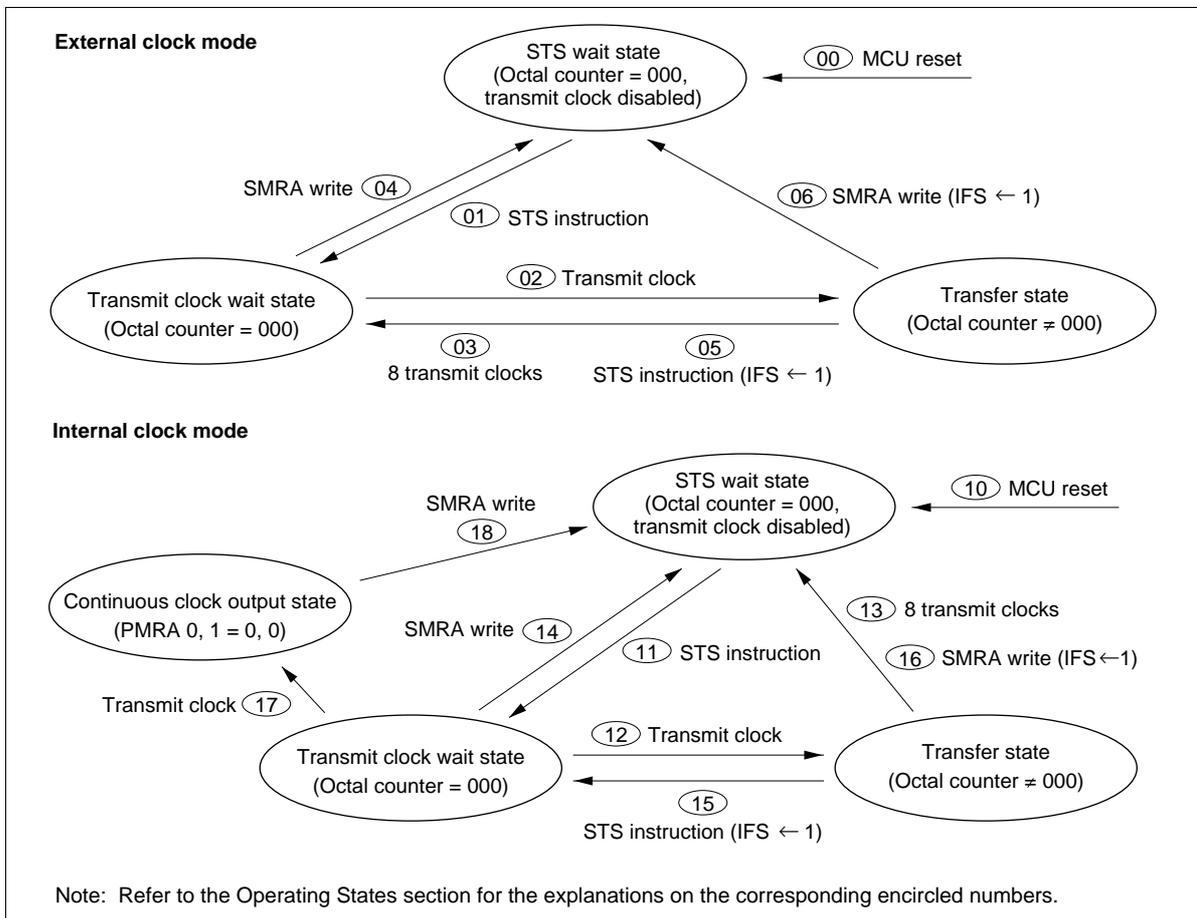

Figure 68 Serial Interface State Transitions
Operating States: The serial interface has the following operating states, which allow transitions to occur between them (figure 68).
- **STS wait state:** The serial interface enters STS wait state by MCU reset (00 and 10 in figure 68). In STS wait state, the serial interface is initialized and the transmit clock is ignored. If the STS instruction is then executed (01 and 11), the serial interface enters transmit clock wait state.
- **Transmit clock wait state:** Transmit clock wait state is the period between the STS execution and the falling edge of the first transmit clock. In transmit clock wait state, input of the transmit clock (02 and 12) increments the octal counter, shifts the serial data register (SRL: \$006, SRU: \$007), and enters the serial interface in transfer state. However, note that if continuous clock output state is selected in internal clock mode, the serial interface does not enter transfer state but enters continuous clock output state (17).